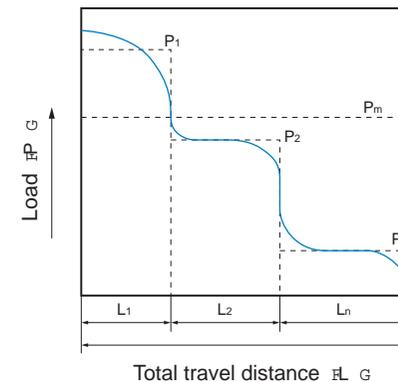

Fig.18 Gradational Variation Curve's Load
- $P_m$  Average Load (N)
- $P_n$  Varying Load (N)
**Gradational variation curve (Fig.18). Average Load can be calculated by using equation (12).**